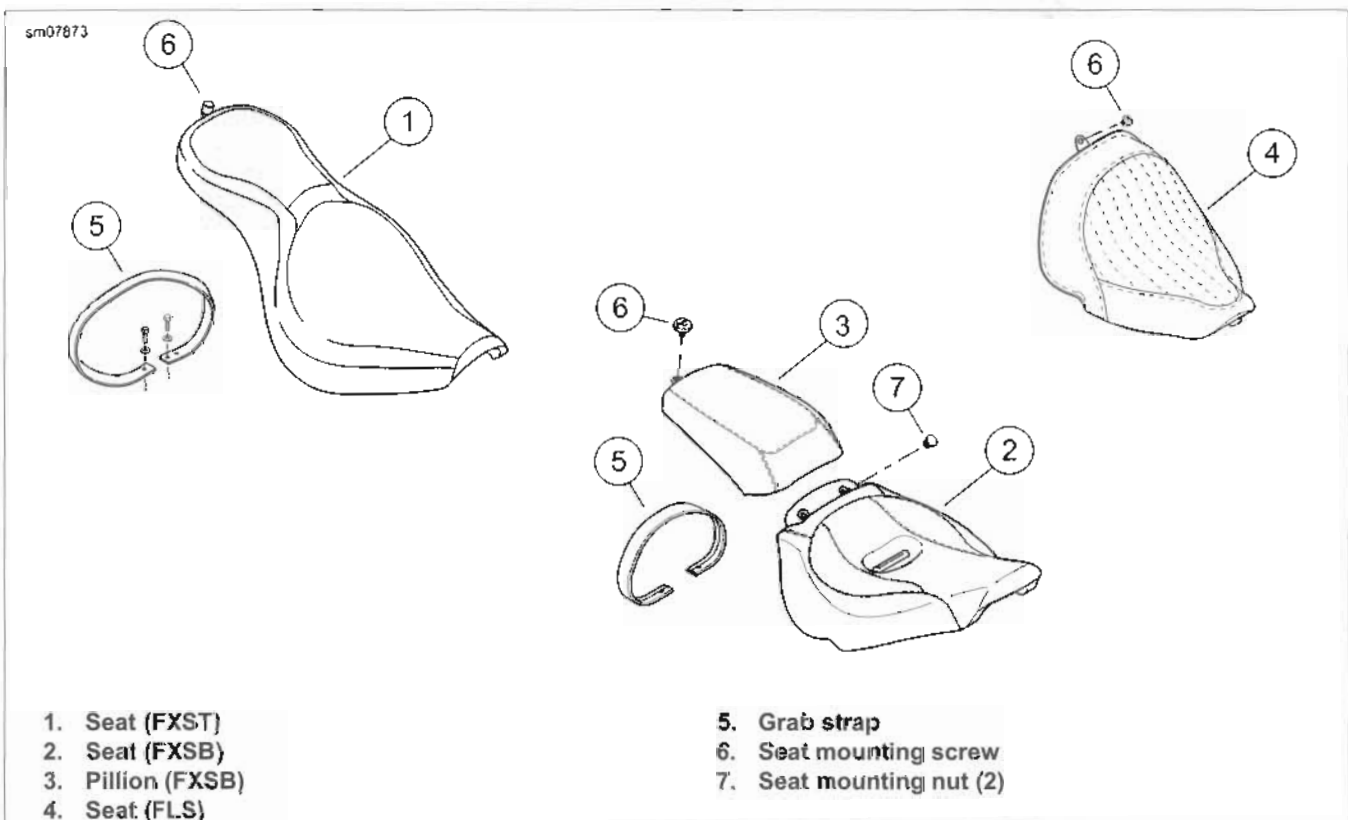

Figure 2-135. Seat: FXST/FXSB/FLS
1. See Figure 2-135. Remove seat mounting screw from top of rear fender.